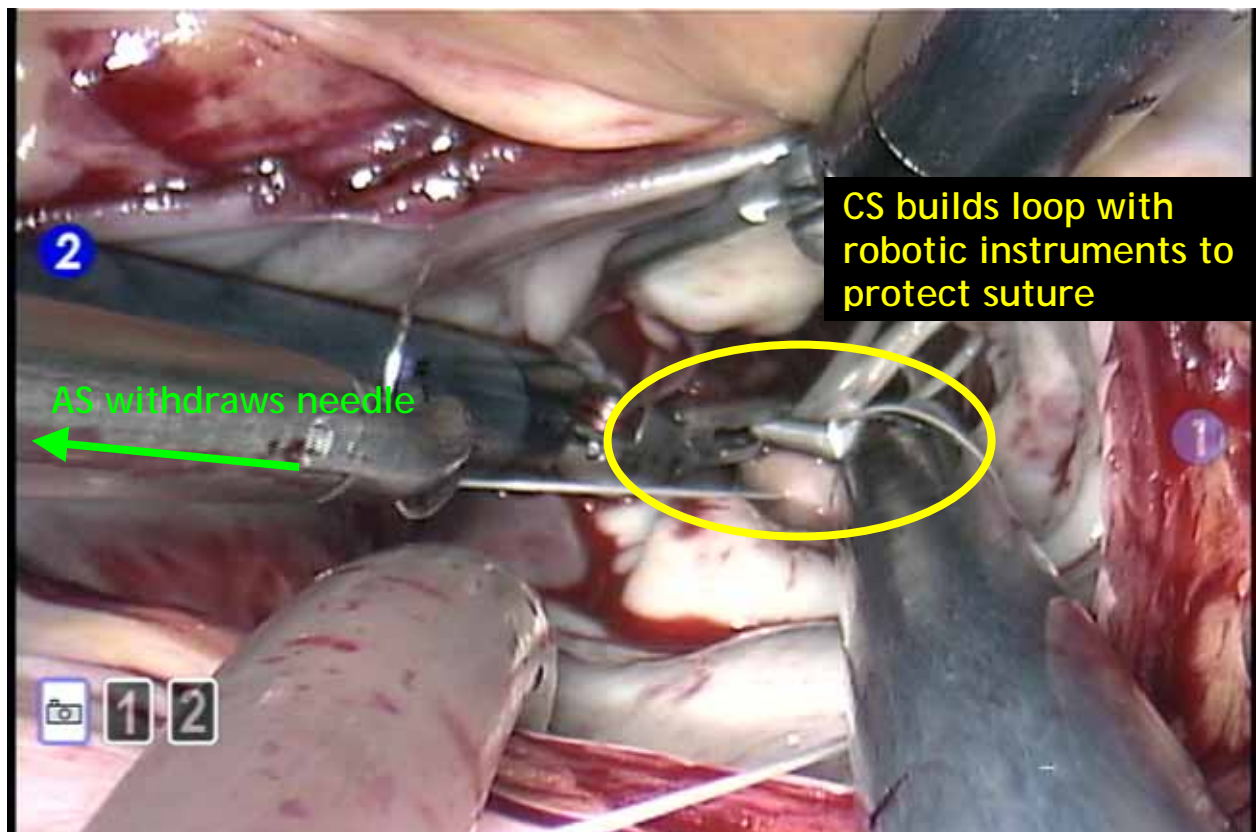

Figure 25: Left and right *da Vinci* instruments build a suture loop
- Assistant Surgeon (AS) hands suture over to the console surgeon's (CS) right *da Vinci* instrument with the needle oriented in laparoscopic grasper in a way so that the CS can pick it up.
- For a "figure of 8" stitch, the CS pulls some of the suture through after the needle passes the tissue and places the second stitch. Then the CS hands the needle back to the AS. However, before the AS pulls the suture out, the CS puts the closed grip of his *da Vinci* instrument through the suture loop to avoid tissue rupture or pulling the stitch out [Figure 25].